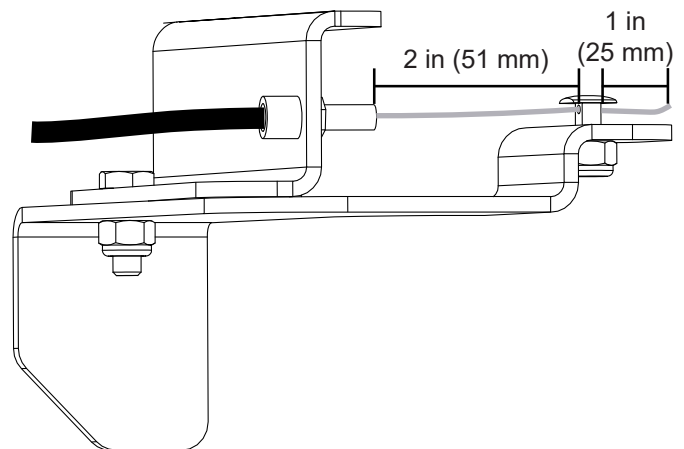

Figure 7. Feed Cable Through Cable Jacket and Clamp
14. Route the cable through the cable clamp with 1 inch (25 mm) extending past the clamp (Figure 7).